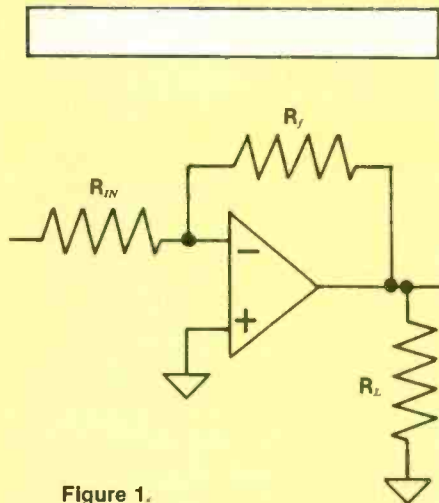

Figure 1.
4. For an operational amplifier (like the one in Figure 1), the bandwidth would be increased by